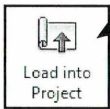

Fig. 06.59. Load Into Project.
- Klik *Load into Project* (Fig. 06.59).